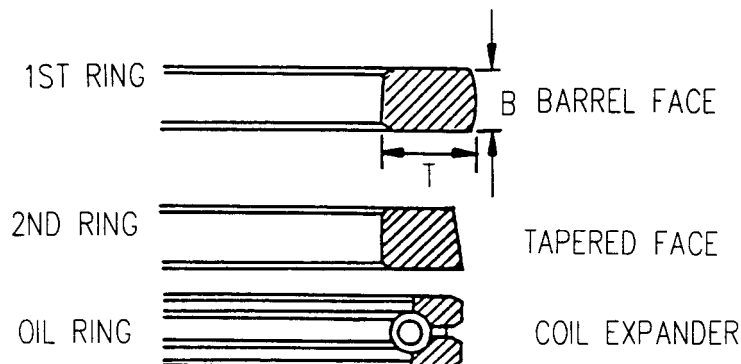

Figure 5-23. Measuring Piston Ring Width
- (1) Piston:
- (2) Piston pin:
- (3) Piston rings:
- (b) Measure width of rings at several points (Figure 5-23):